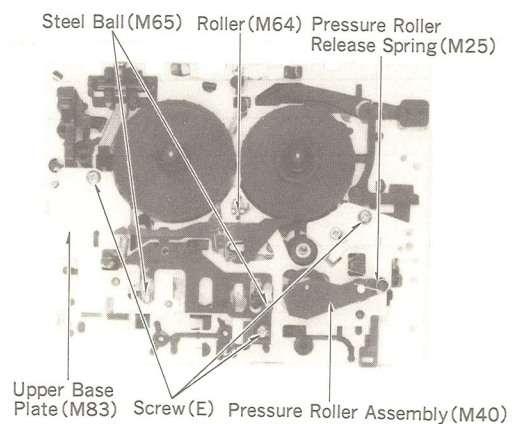

Fig. 12
3. After removing pressure roller release spring (M25), remove pressure roller assembly (M40). (fig. 12)
4. Remove screw (E), and then upper base plate (M83) can be detached. (fig. 12)